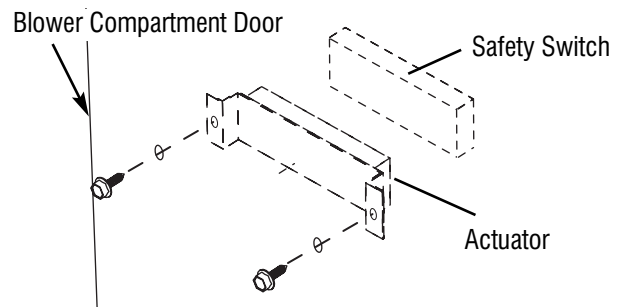

Fig. 11 Mount safety interlock actuator to access door.
2. Mount the remote safety interlock actuator to the access door using the included self drilling screws. (Fig. 11)